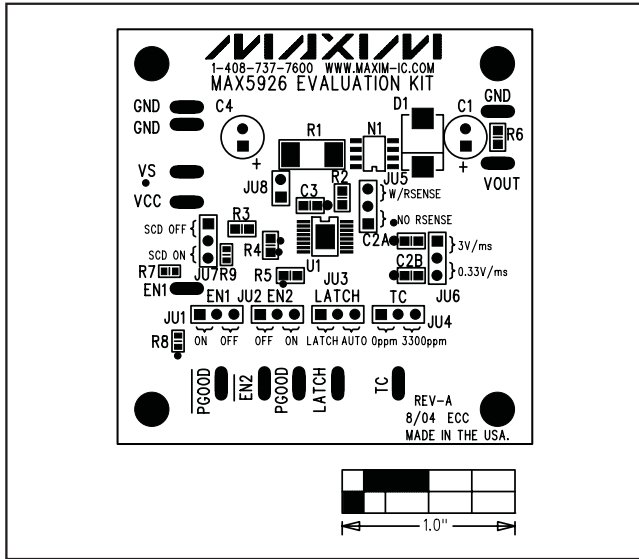

Figure 2. MAX5926 EV Kit Component Placement Guide—Component Side
- 1) Ensure the EN1 jumper (JU1) is connected in the “OFF” setting in order to disable the MAX5926. See Figure 2 to see the silkscreen for all of the jumper labels on the MAX5926 EV kit board.